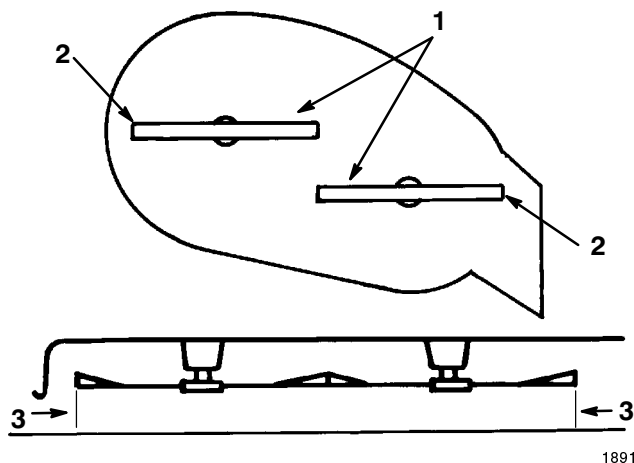

Figure 46
4. Carefully rotate blade(s) side to side (Fig. 46). Measure between the outside cutting edges and the flat surface (Fig. 46). If both measurements are not within $\frac{3}{16}$ " (4.8 mm), an adjustment is required; refer to steps 5 and 6.